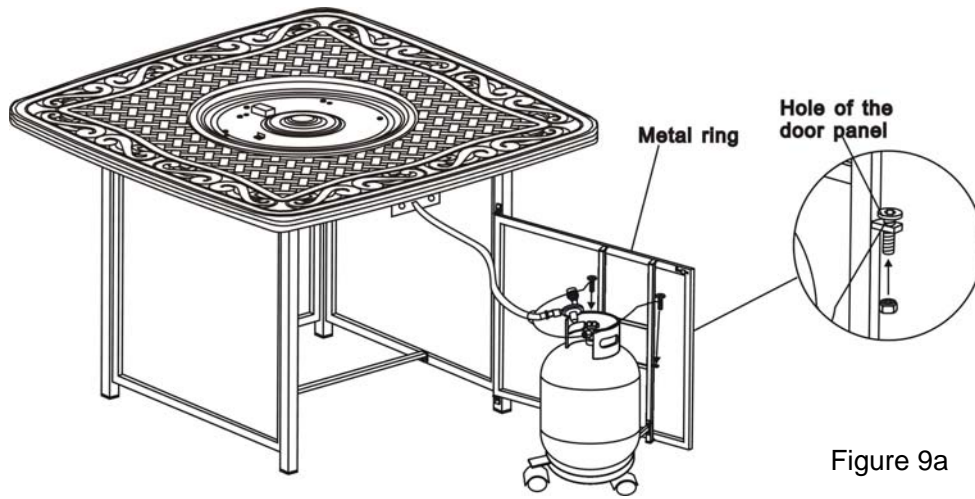
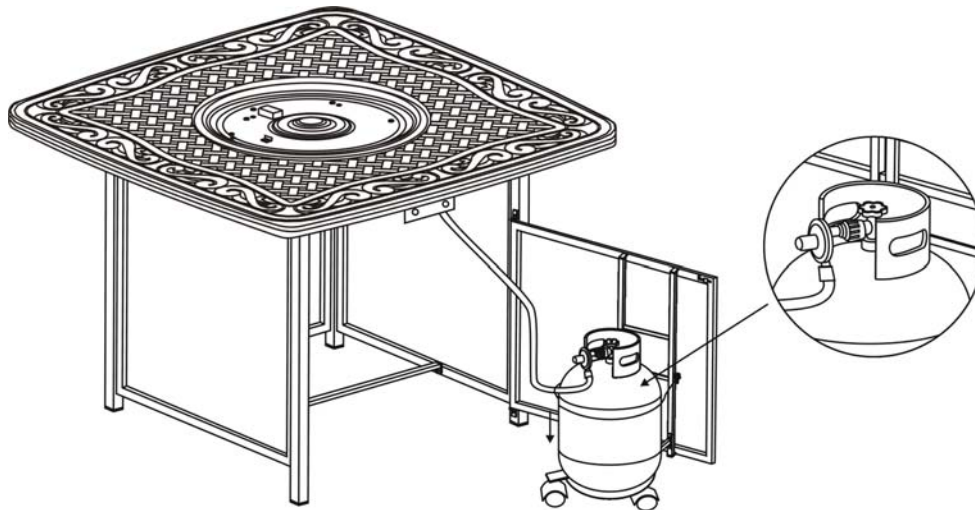

Figure 9
Figure 10
9. Attach the metal ring (as shown in Figure 9) pre-fitted with gas hose which is connected to the table top, into the hole of the door panel, then use hex bolt driver to screw 1/4"x5mm nut, the gas tank has fixed as shown in Figure 9a. Connect the regulator as shown in Figure.10 Screw the black handle clock-wise to tighten. Turn the handle counter clock-wise to remove. The hose must point down. Check that the valve is turned all the way clockwise to the "OFF" position.